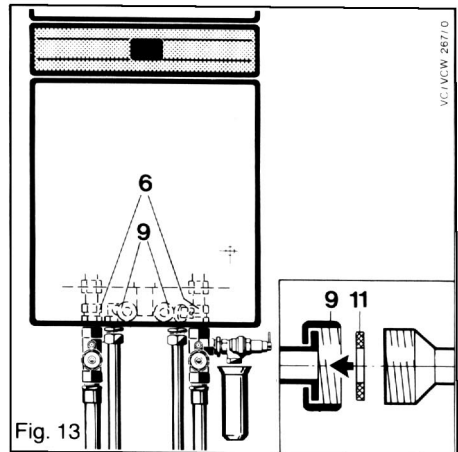

Fig. 13
Insert the appliance with the connection tubes downward into the compression unions of the service cocks and hang it on to the threaded bolts of the wall case (1), fig. 14. Fasten nuts, compression unions (6, fig. 13) and union nuts (9, fig. 13) using the attached washers (11, fig. 13).